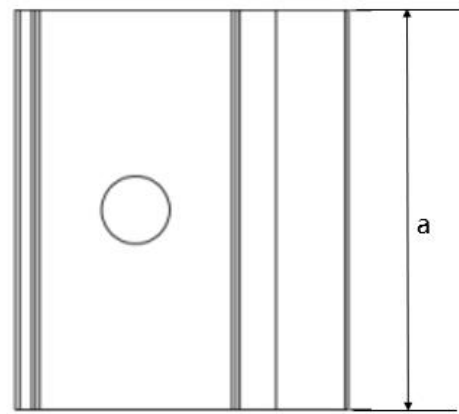
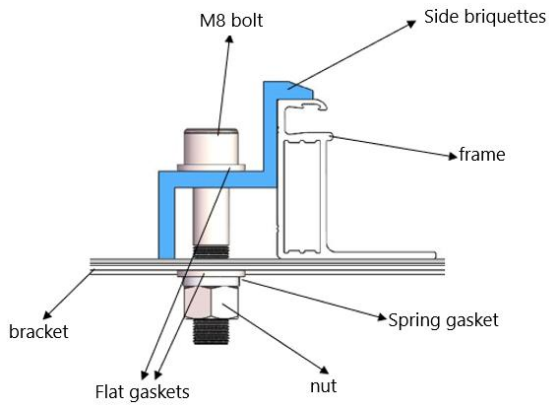

Fig. 7 Top view of fringe clamp
Fig. 11 Installation schematic diagram of fringe clamp
- ③ The top surface of the rail contacted with module frame should be equipped with grooves compatible with an M8 bolt.
- ④ If the grooves are not provided, holes of a suitable diameter may need to be drilled to allow bolts attaching to the rail at the same locations as mentioned above.
- ⑤ Ensure that the mounting sequence of each clamp is in the order of flat washer, spring washer and nut.
- ⑥ Figures 7~10 show the schematic diagram of the clamp, while Figures 11 and 12 show the installation schematic diagram of the clamp. The dimensions of the clamp are as follows: Length(a) $\geq 50\text{mm}$, with a thickness of at least 4mm, and an overlap with the frame (d) $\geq 10\text{mm}$; or Length(a) $\geq 60\text{mm}$, with a thickness of at least 3mm, and an overlap with the frame (d) $\geq 8\text{mm}$. The clamp section can be changed under the premise of ensuring reliable installation, and it must not extend beyond the frame to avoid contact with the glass.
- ⑦ Modules sized 2384*1303mm and above are only suitable for a clamp dimension of length(a) $\geq 60\text{mm}$.
- ⑧ The tightening torque is suggested to be 17~23N•m for Class 8.8 screw and bolts.